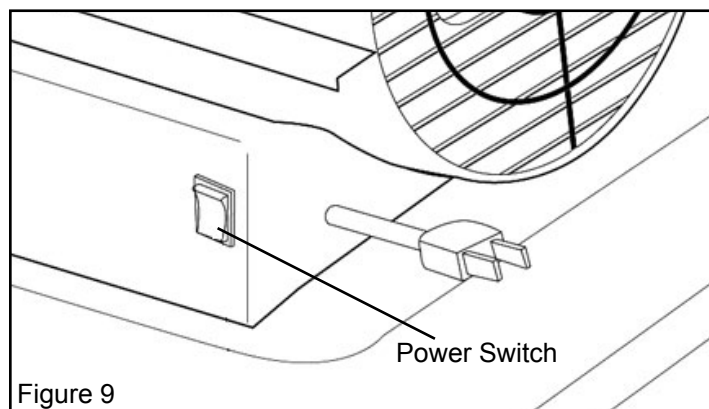

Figure 9
2. Move power switch to "On" position. The power indicator light will illuminate and the heater will ignite. (See Figure 9)